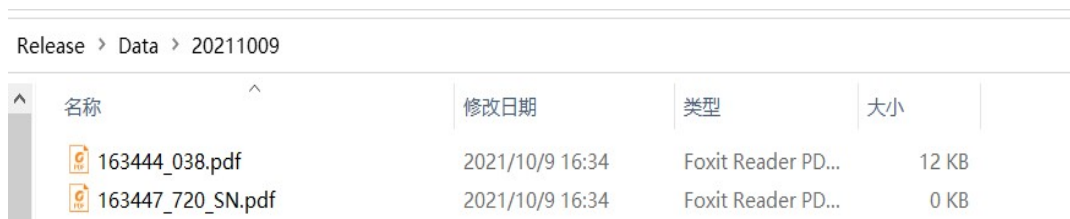

Figure 68
4) At the same time, a data folder "Data" is automatically generated under the "Release" file contents. Open the "Data" folder and find the corresponding list information, as shown in Figure 68 below.